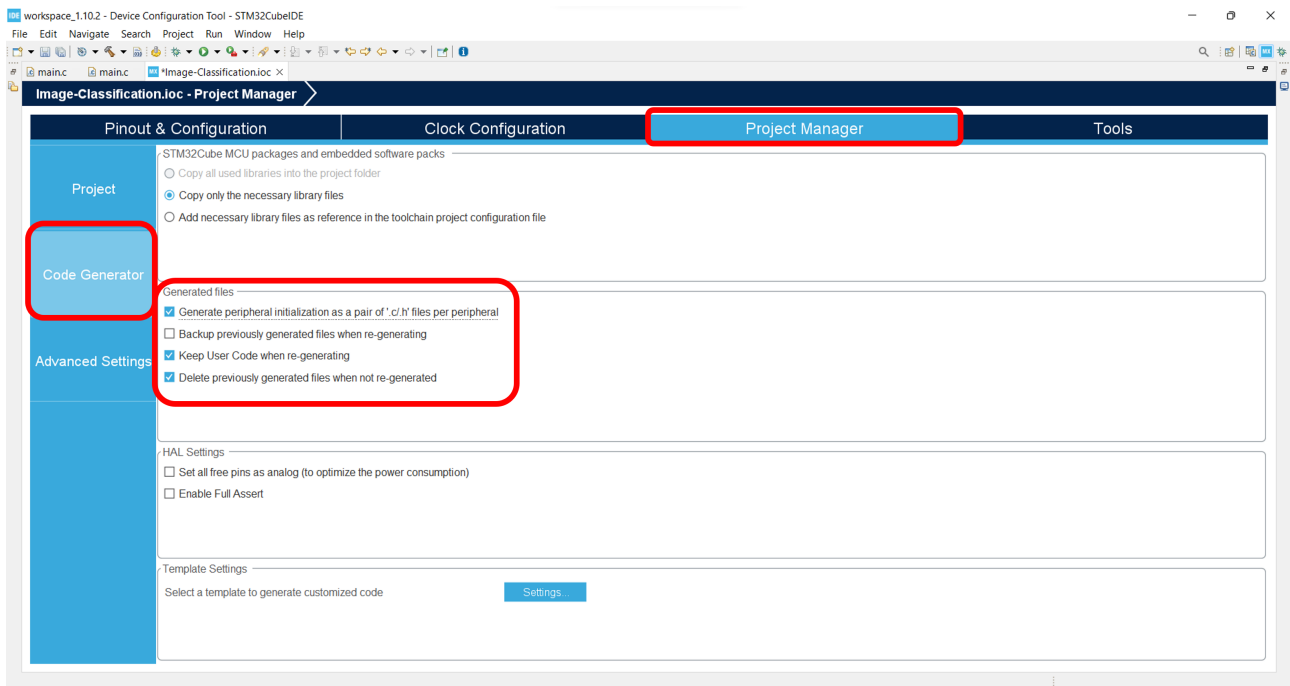

Figure 2: Project Manager configuration for separating the peripherals and main function.
3. In order to generate a clean `main.c` file it is recommended to generate separate source and header files for the peripherals and main file. This can be done via the *Project Manager*, as shown in Figure 2.